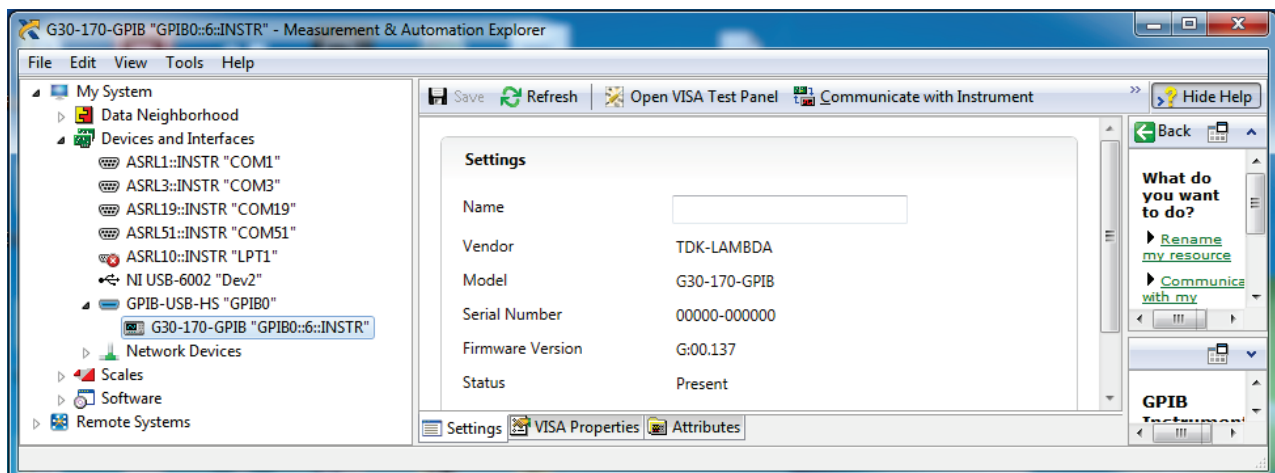

Figure 7-5: Instrument Properties
4. On the side tree, select **GENESYS™** instrument (i.e. G30-170-GPIB) and review the device settings. Refer to Figure 7-5.